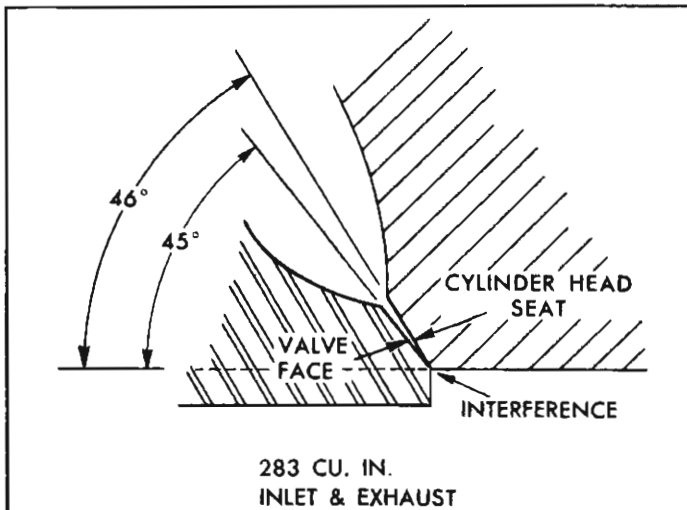

Fig. 71—Relation of Valve and Seat Angles
- Inlet and Exhaust valve to cylinder head angles are an interference fit as shown in Figure 71.